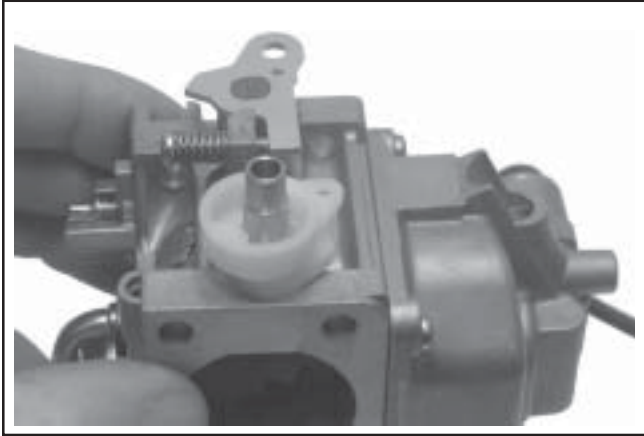

Figure 5-62. Installing Bushing.
- Turn the old bushing upside down and use it as a driver to carefully press or tap the new bushing into the carburetor body until it bottoms. Check that the choke lever pivots freely without restriction or binding. See Figure 5-62.